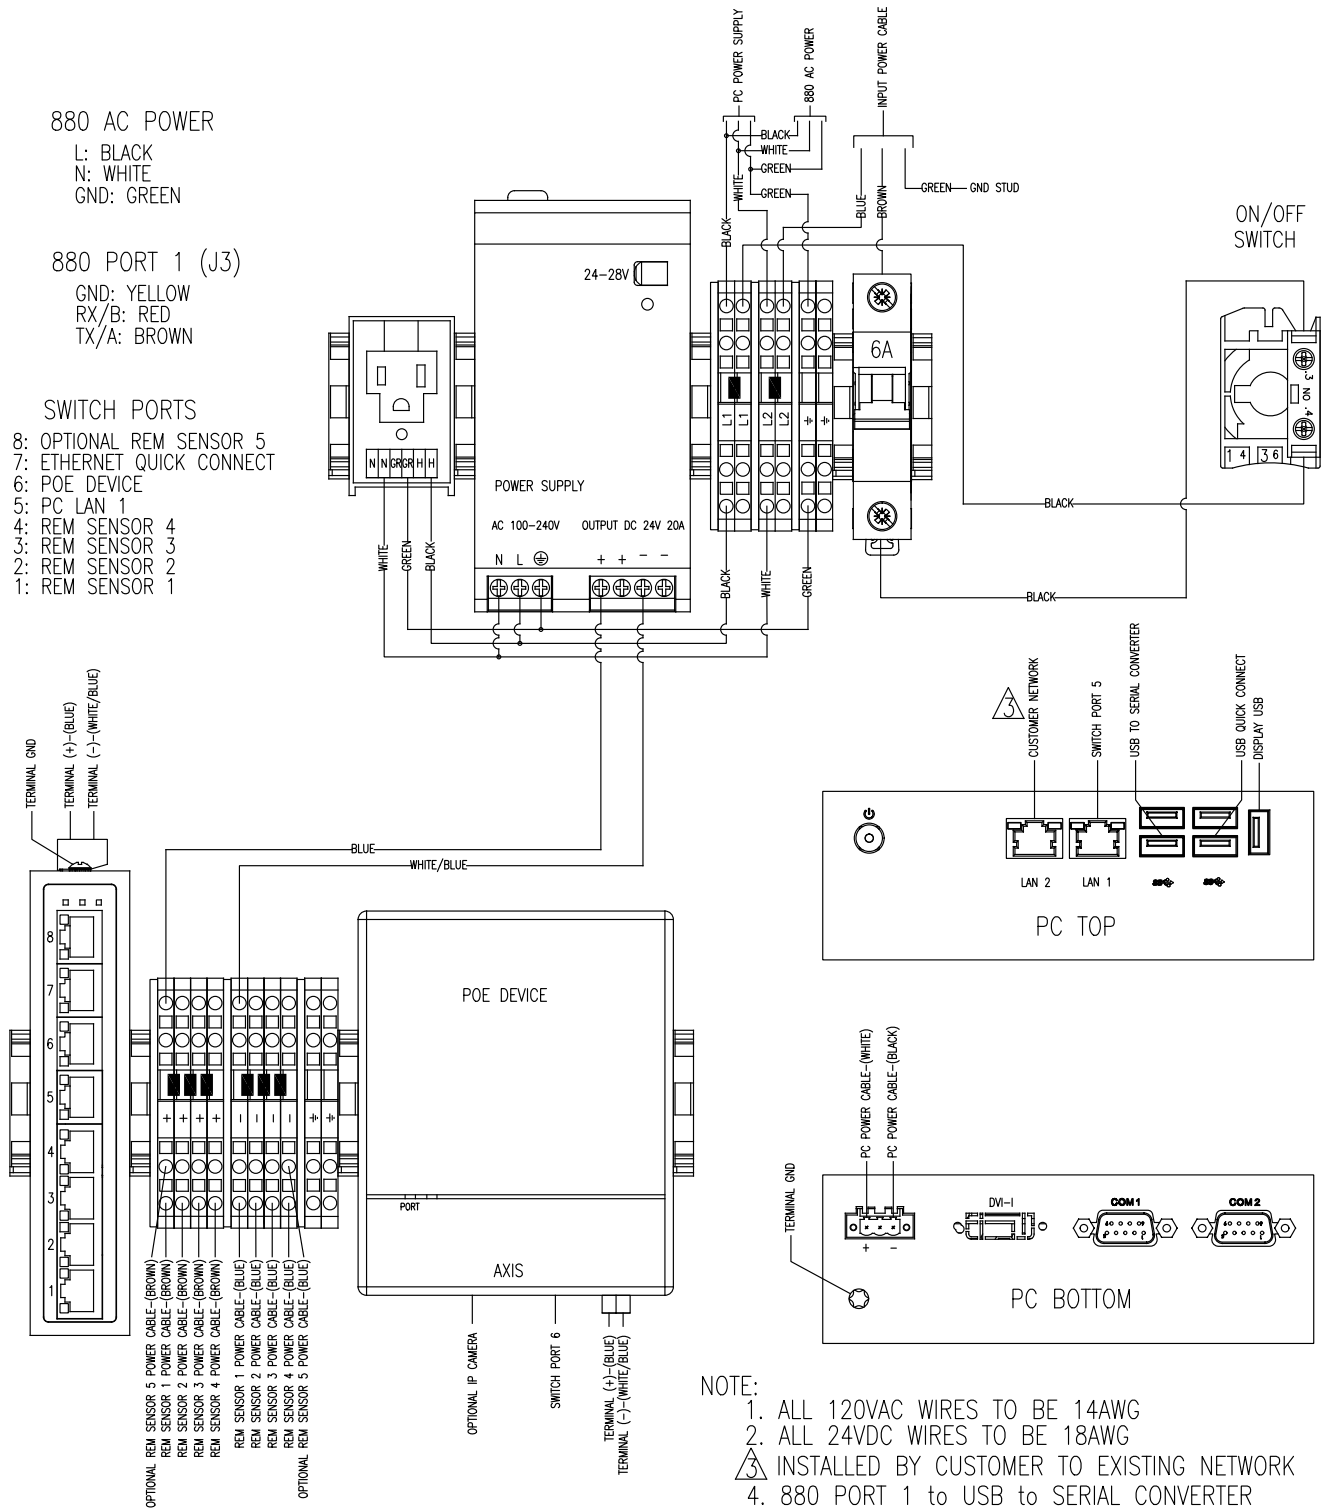
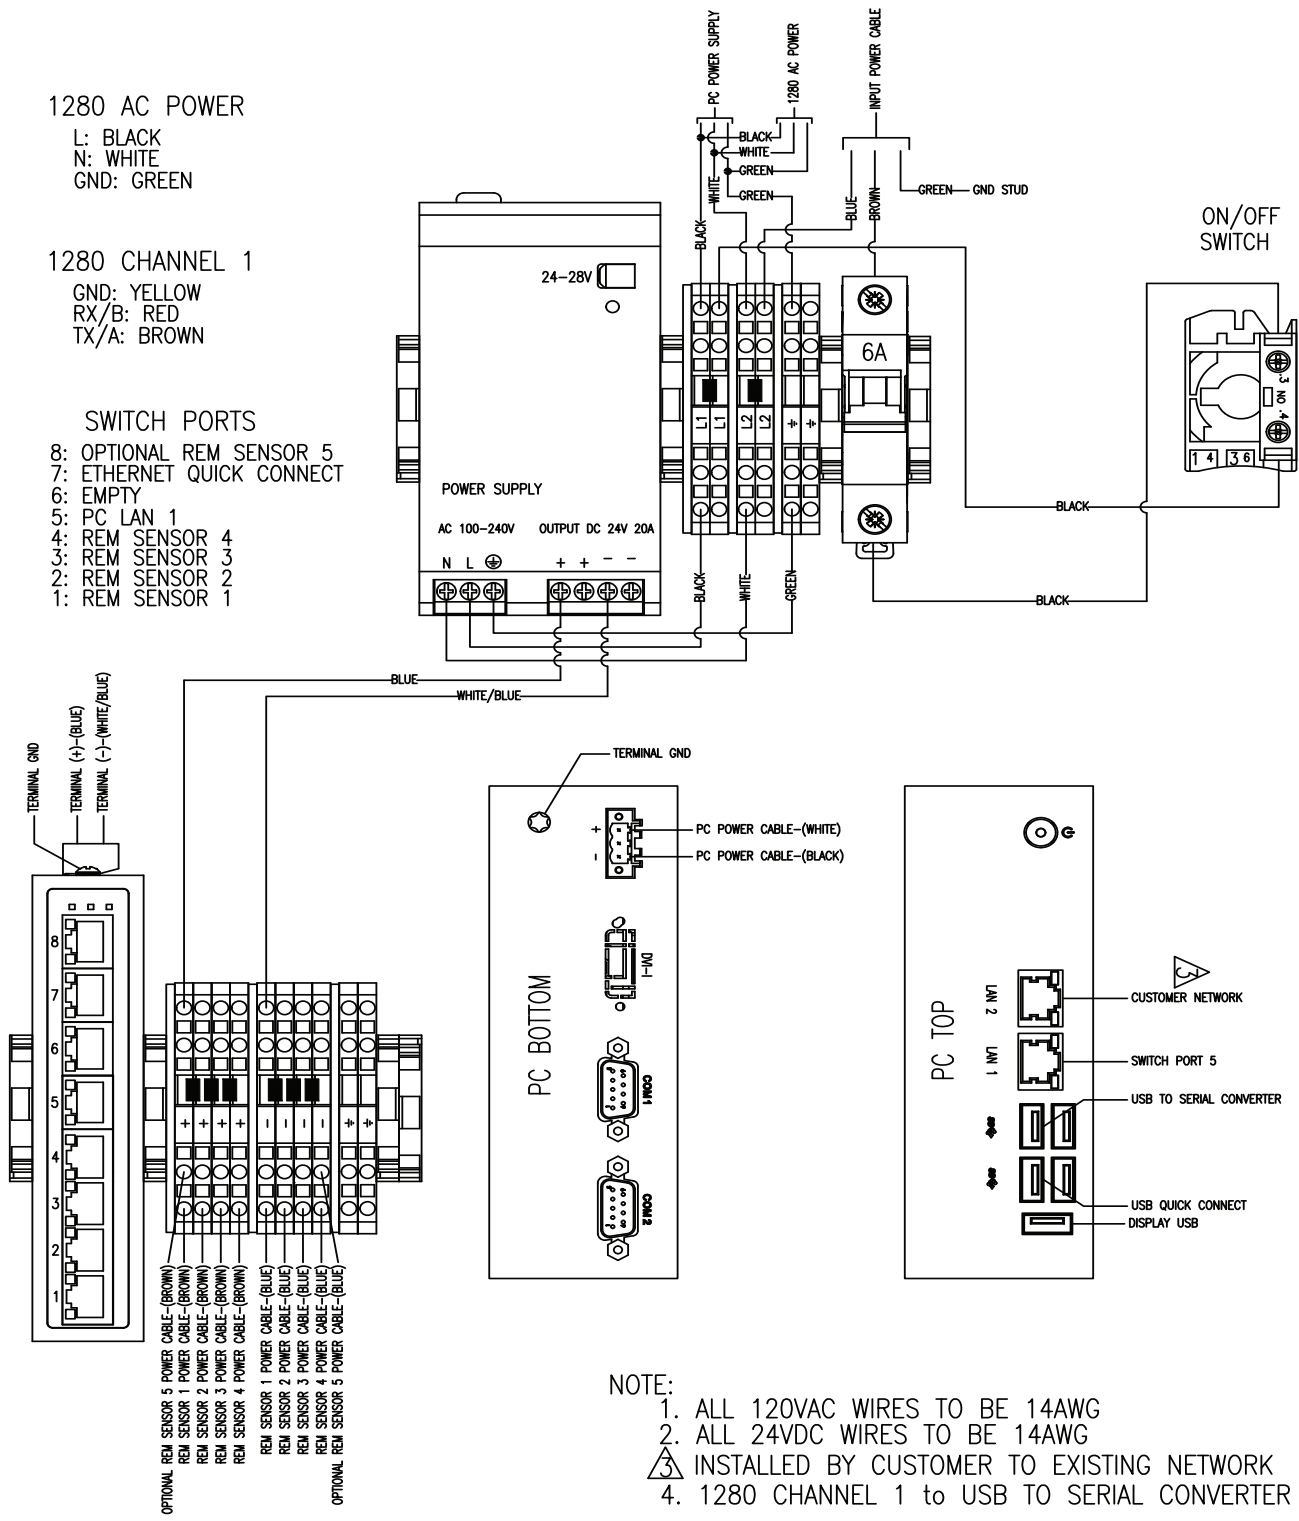

Figure 3-20. 880 Wiring Diagram
Figure 3-21. 1280 Wiring Diagram
- Strip and wire the SUMMIT 3000 scale homerun cable to the indicator (Figure 3-20 for 880 Indicator and Figure 3-21 on page 27 for 1280 Indicator).